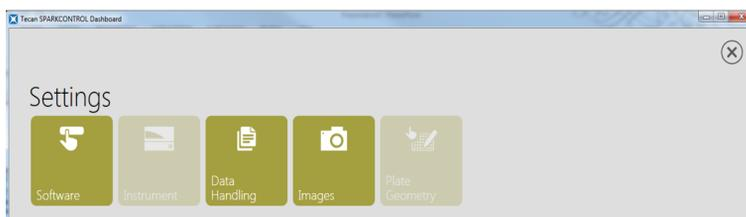

Figure 25. Exporting a Data File in SparkControl Software. Data Handling in Settings Tab.
- 2 Open the SparkControl software. Click on the **Data Handling icon** in the **Settings** tab of the SparkControl DashBoard. See Figure 25.